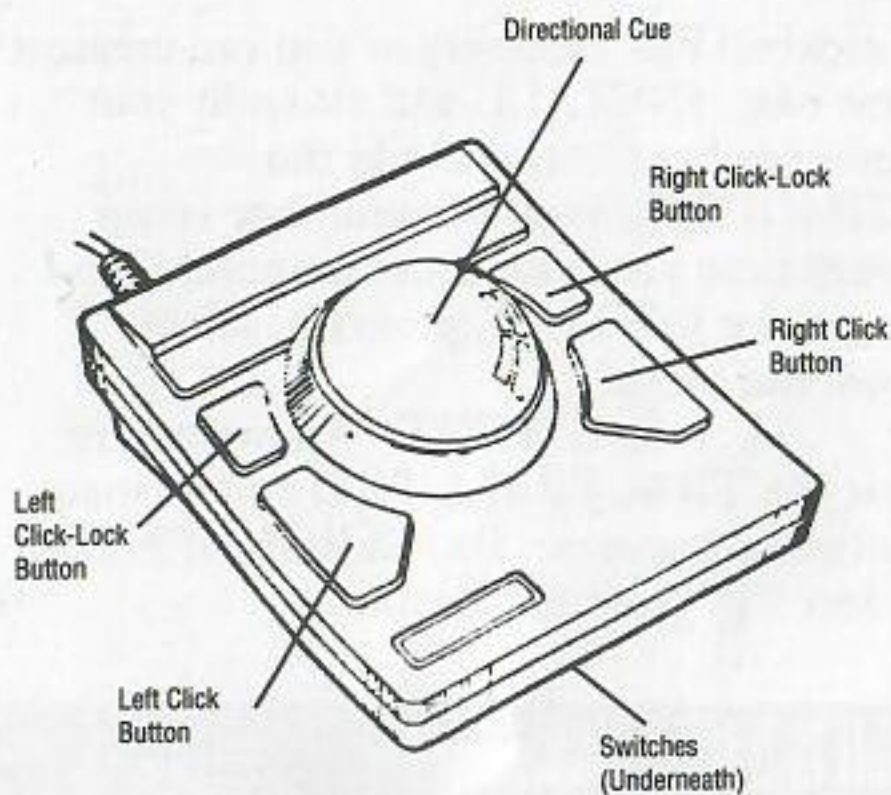

Figure 1 - The TRACKBALL PRO
a. The most obvious feature of the TRACKBALL PRO (Figure 1) is the directional cue (ball). The cue may be rolled in any direction providing total cursor control. Moving the cue slowly allows accurate cursor placement when greater precision is required. However, rolling the cue faster triggers the cursor to respond at a far greater rate. This feature (called acceleration) can be used to move the cursor quickly across the screen without excessive rolling of the cue.